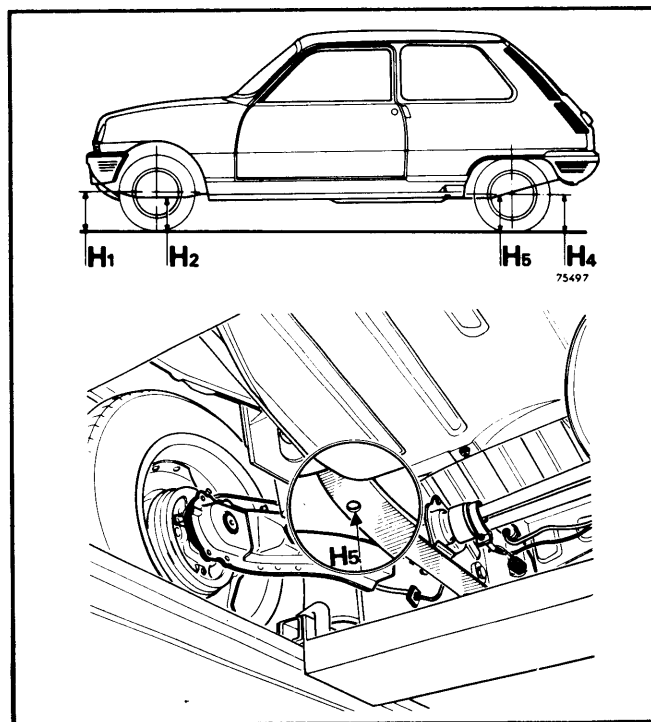

Fig. 1 Riding Height Adjustment Points
R-5, Cam Method — 1) Calculate difference between H1 and H2 (Fig. 1). Value obtained must not exceed $2\frac{1}{4} \pm \frac{3}{8}$ " (58 ± 10 mm).
2) Calculate difference between H4 and H5 (Fig. 1). Value obtained must not exceed $-\frac{7}{16}$ to $+\frac{3}{8}$ " (-11 to $+10$ mm).
R-5, — 1) Vehicle riding height must be calculated before adjusting caster. Measure distance between ground and rear side member (H5, Fig. 1). Measure distance between ground and front side member in line with wheel centers (H2, Fig. 1). Subtract measurements and refer to table for correct caster angle.